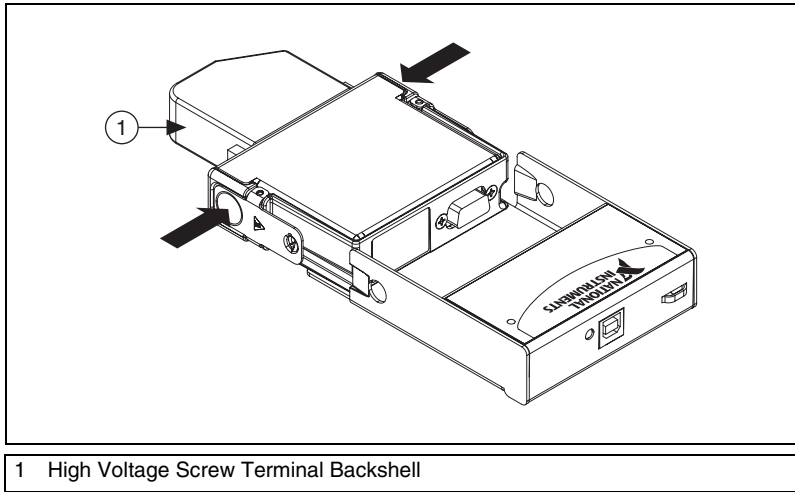

Figure 4. Module Installation
3. Align the I/O module with the carrier, as shown in Figure 4.